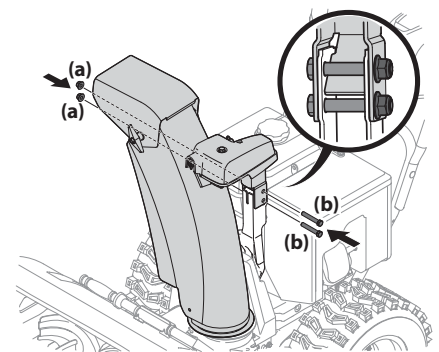

Figure 2-35
3. Secure chute control head to chute support bracket with lock nuts (a) and hex screws (b) removed in Step 1. See Figure 2-35.